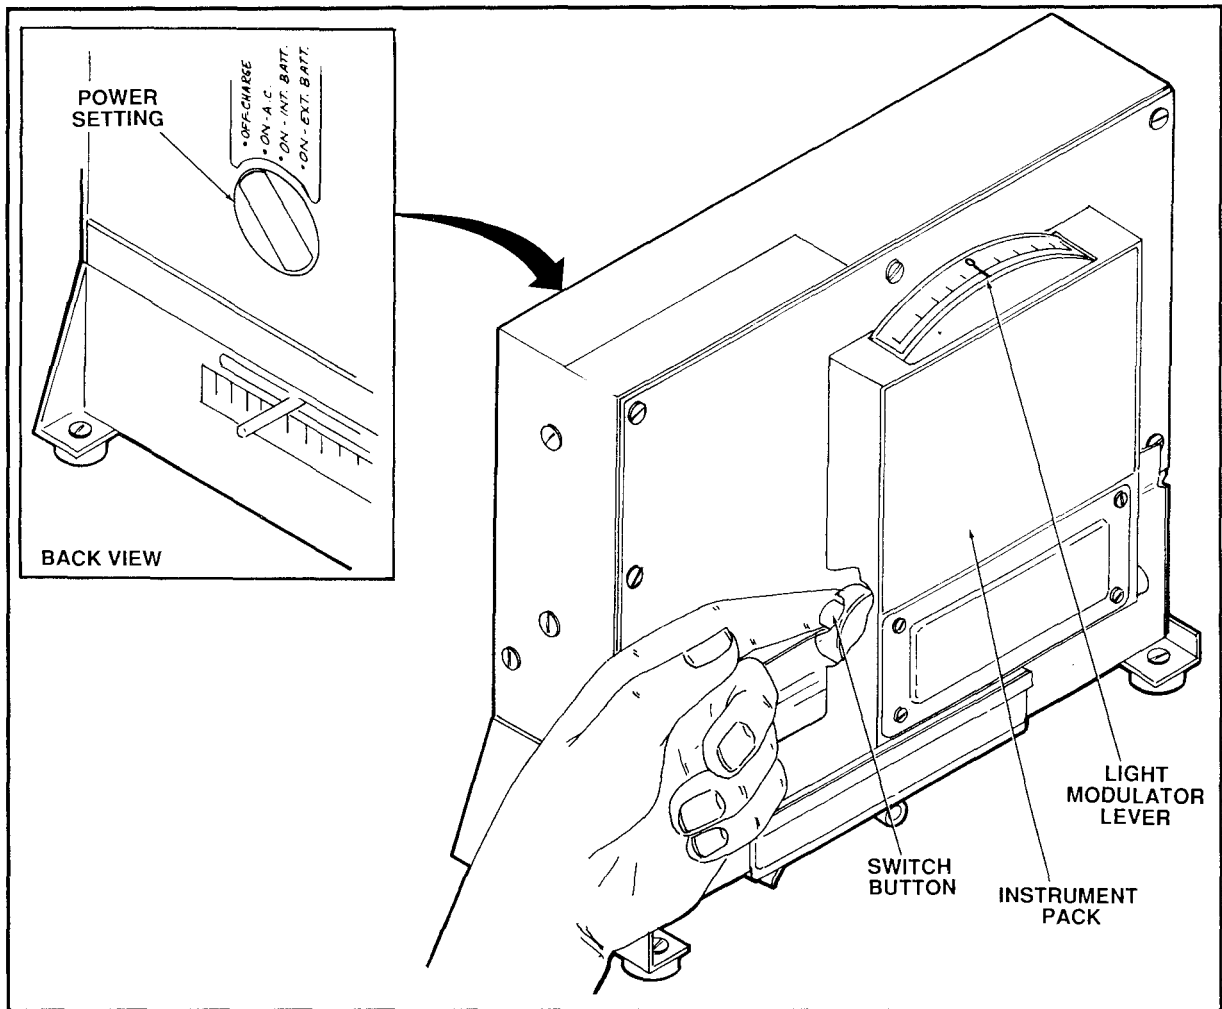

Figure 2.37 Reading the Undissolved Water Level
- f. Read the undissolved water level where the lever crosses the scale (Figure 2.37).